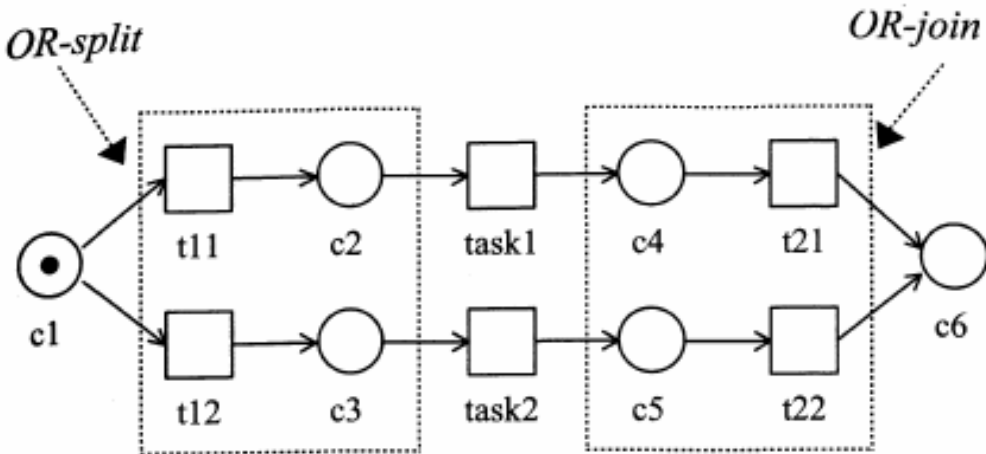

Figure 2.17
- explicit model: Fig2.17, choice is made at the moment when there is a token in c1